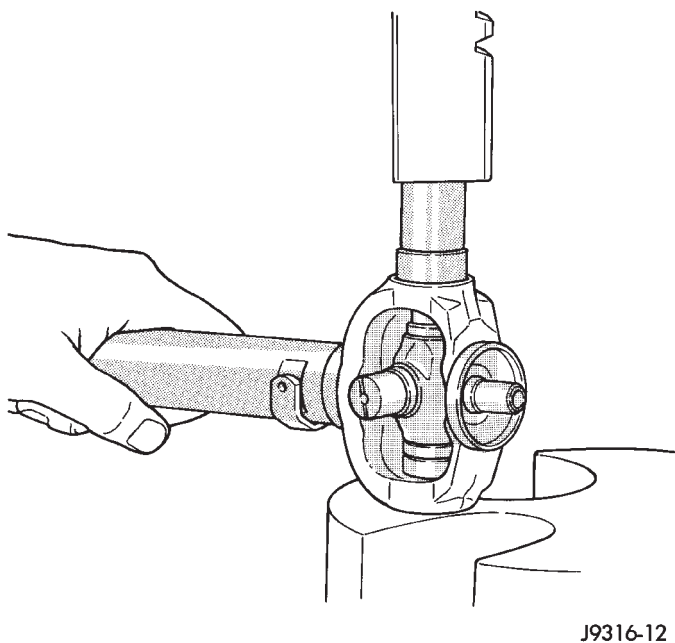

Fig. 26 Press In Bearing Cap
(6) Flip the propeller shaft yoke and install the bearing cap onto the opposite trunnion. Install a snap ring (Fig. 26).